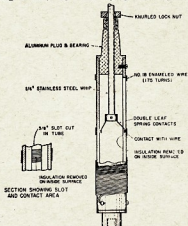
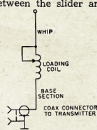

Fig. 1—Cutaway drawing showing the construction of the loading coil. The dimensions can be varied to suit materials available.
Fig. 2—Electrical circuit of the whip antenna with loading coil.
Fig. 2—Crystal sideband filter, balanced-mixer and sideband-selector circuits. This section fits between the balanced modulator of Fig. 1 and the 3.250 Kc. mixer of the "Sideband Package" circuit. The sideband selector replaces the original system in the "Package". Resistances are in ohms, and fixed resistors are  $\frac{1}{2}$  watt unless indicated otherwise. SM indicates silver-mica capacitors not listed below are disc ceramic.
- L6—Same as L3 (Fig. 1).
The construction of the coil will present no problem to the Ham having access to a small machine shop. Because each Ham may have other sizes and dimensions of material available than those shown in the cutaway view, Fig. 1, drawings and dimensions of the individual pieces will not be shown.
spaced 120 degrees apart. The ends of the wire are fastened under one of the screws at each end of the coil. The electrical circuit of the antenna is shown in Fig. 2.